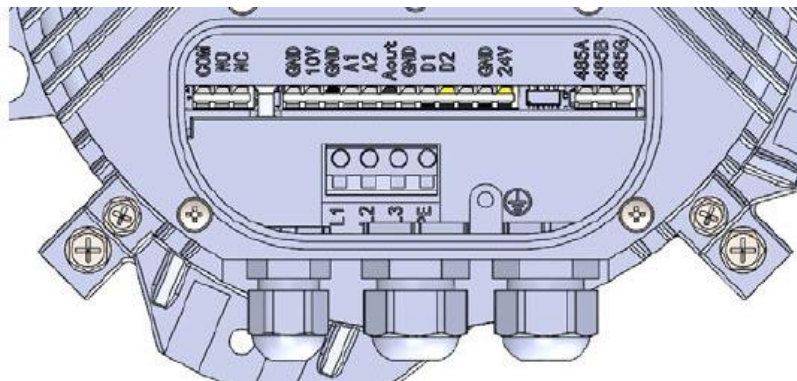

Figure 27. Terminal Block Diagram
3. Remove caps from the cable glands. Label and remove wiring from terminal blocks shown in **Figure 27**. Carefully tag these wires properly to ensure that they are connected at the same location on the new fan motor. These wires carry polarity-sensitive signals.